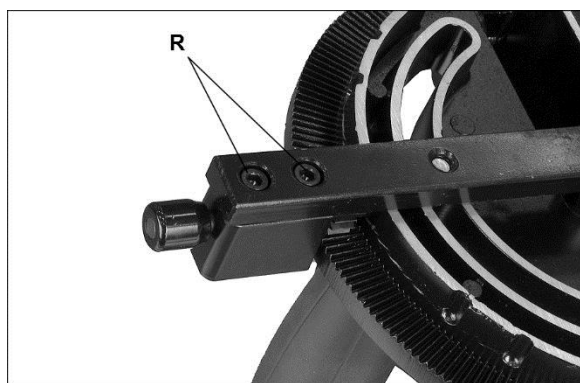

Figure 8-3
4. Adjust body (K) until it is square (90°) to miter slot.
5. Tighten lock handle (H).
6. Verify that scale indicator (L) reads 0°. If it does not, loosen screw (P) and adjust indicator (L) until it reads 0°. Retighten screw (P).
7. If the above procedure does not satisfactorily align the miter gauge, loosen two screws (R, Figure 8-3) beneath mounting block and shift block as needed. Retighten screws when finished.